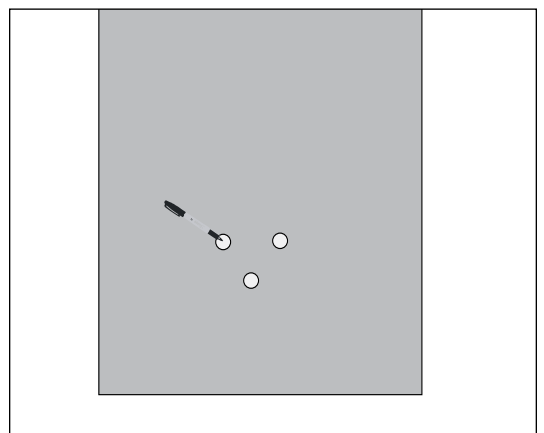

FIGURE 3. Mark panel using template.
- Place plastic end panel on a smooth, flat surface with finish side up. Position template with X side down over end panel. Make sure front edge and bottom are lined up. Mark hole locations. (Fig. 3)